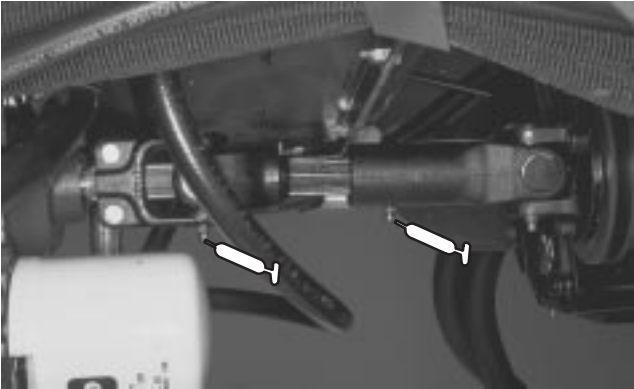
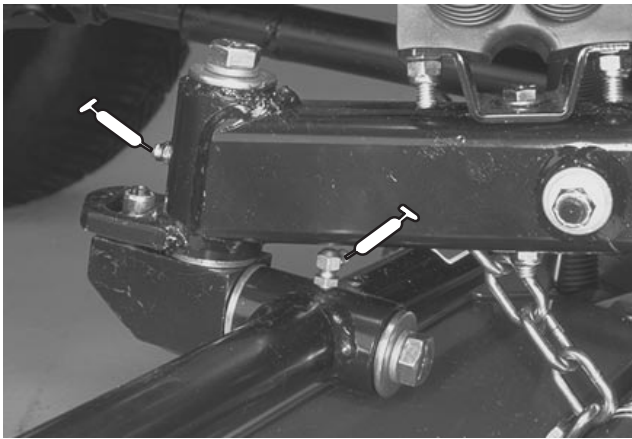
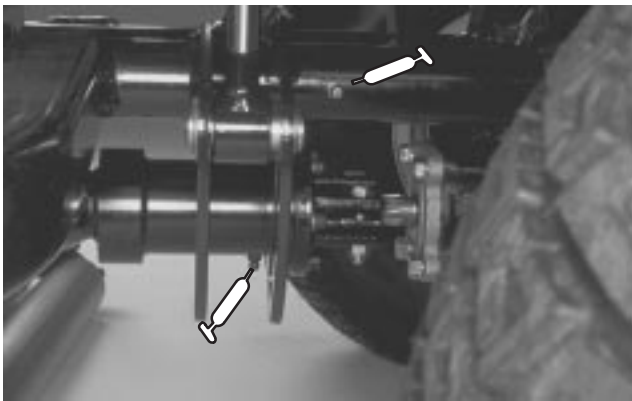
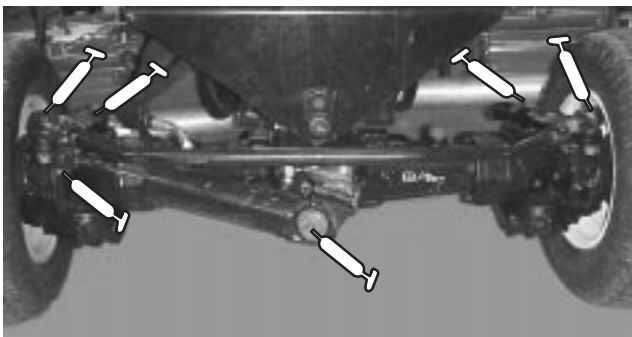

Figure 39
Figure 40
Figure 41
Figure 42
The grease fitting locations and quantities are: Engine Drive shaft (3), (Fig. 39); Cutting unit carrier frame and pivot (2 ea.), (Fig. 40); Lift arm pivots (5), Drive shaft clutch (1) (Fig. 41); Rear axle tie rod (2), Steering cylinder ball joints (2), Axle steering pivots (2) Rear axle pivot (1) (Fig. 42); Traction control linkage at transmission (1), Drive shaft support bearing (1), Rear axle drive shaft (3) (Fig. 43); Brake pedal (1) (Fig. 44); Lift cylinders (5) (Fig. 45) and Fan shaft (Fig. 46).